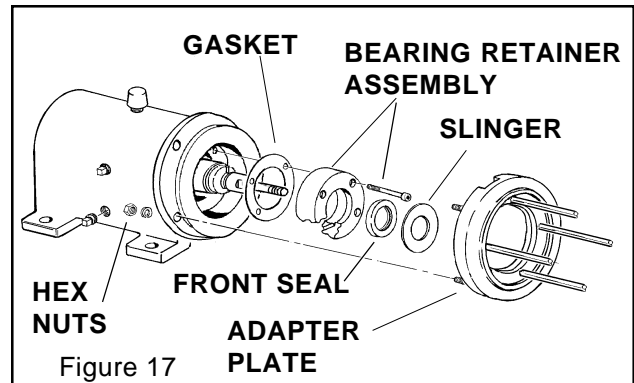

Figure 17
Front Seal Replacement (Figure 17)
6. Replace front end assemblies. (Figure 17)